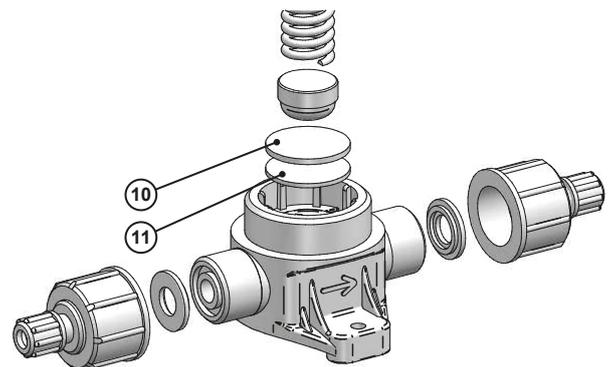

Fig. 11: Exploded view of back-pressure and pressure relief valves DN6 with diaphragms made of EPDM-PTFE
2. Unscrew the pressure setting screw from the valve cap (4).
3. Loosen the union nut (1).
5. Remove the diaphragm (8), spring plate (7), compression spring (6) and washer (5). Back-pressure and pressure relief valves with diaphragms made of FPM (Viton) and EPDM contain one diaphragm. Back-pressure and pressure relief valves DN6 with diaphragms made of EPDM-PTFE contain two diaphragms (10 and 11. Fig. 11).